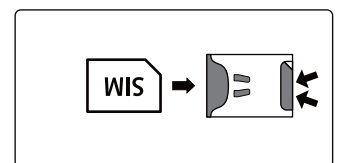

Fig. 36
2. To remove the SIM card carefully use the end of a small flat head terminal driver (indicated with the two arrows on the right side of the SIM holder where the edge of the SIM can be seen, **Fig.36**) and gently push the nano SIM to the left.